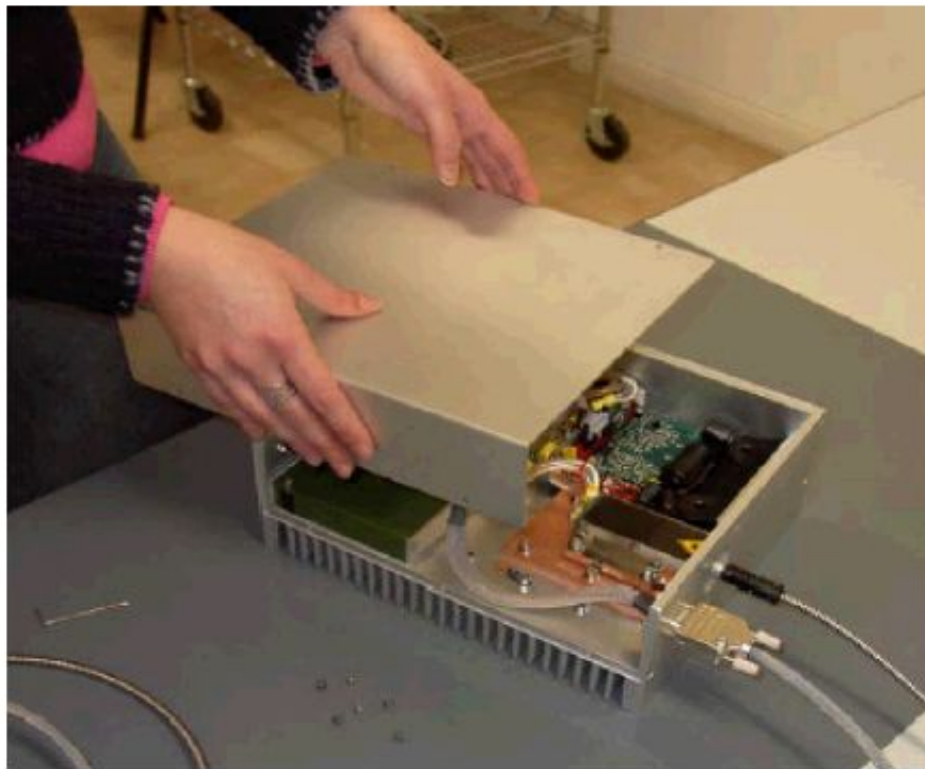

fig. 2
- 2) Take off the pumping unit cover[fig.2]
19) Put the pumping unit cover in place and screw the corresponding screws (1-2-3-4-5-6). [as fig.2 and fig.1]